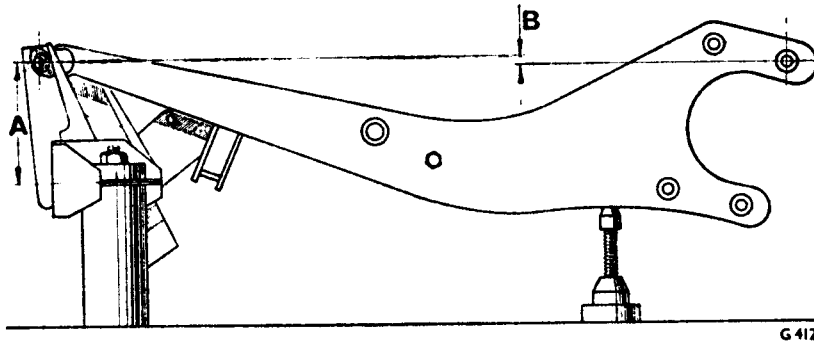

FIG. H25 ALIGNING THE TRAILING ARMS TO THE SUSPENSION CROSS-MEMBER (NORMAL RIDE) PRIOR TO SETTING CAMBER AND TOE-IN
2. Mount the trailing arms and set the arms in the 'normal ride' position (see Fig. H25).